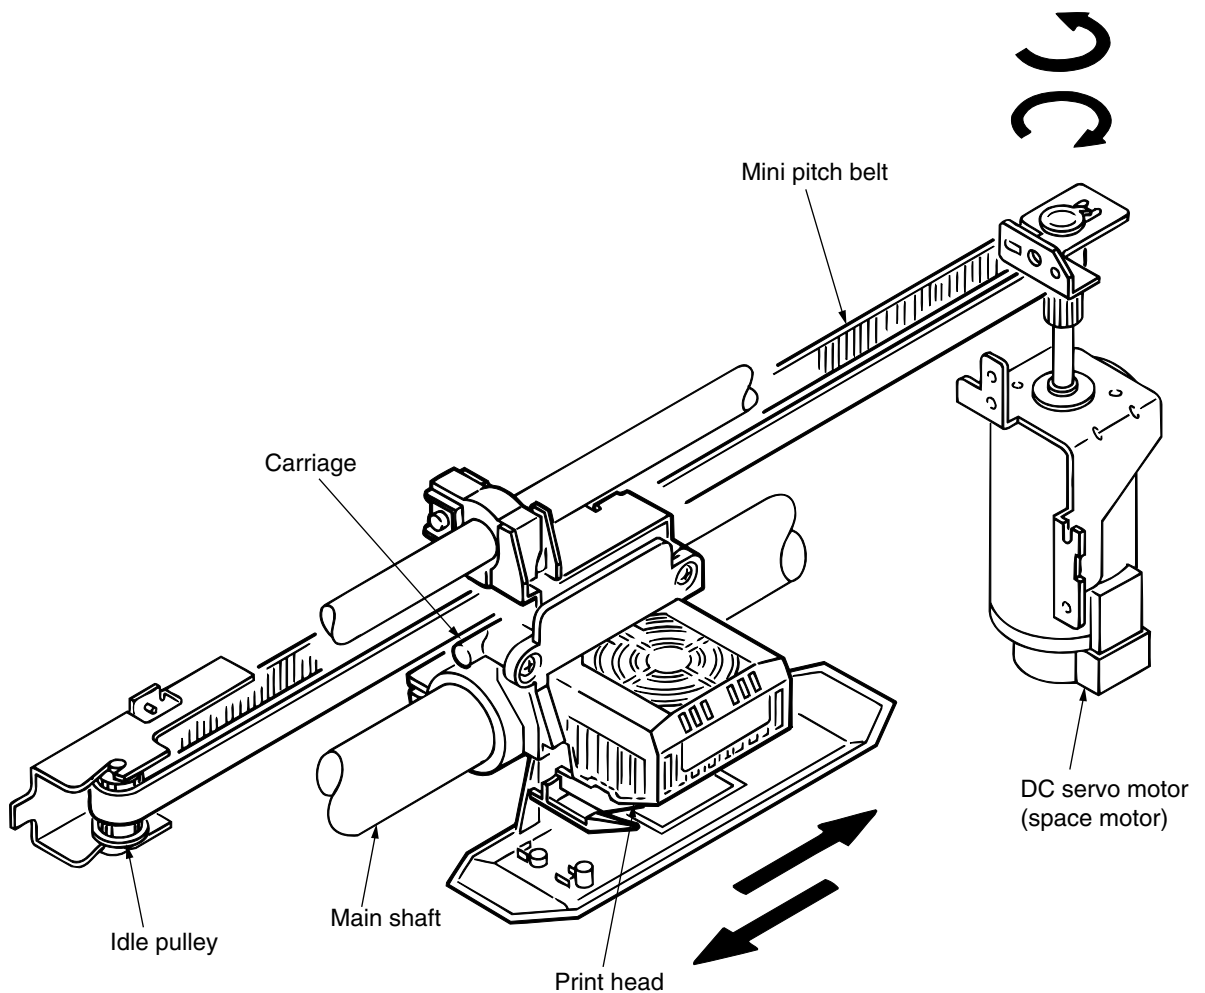

Figure 12-4. Space Mechanism
(1) Spacing (See Figure 12-4.)